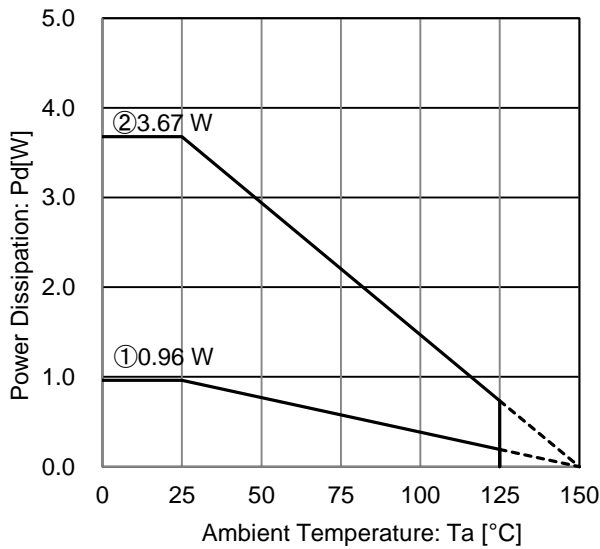
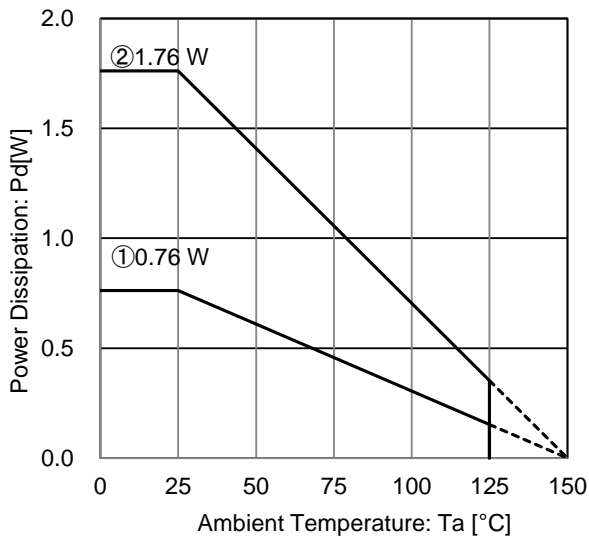

Figure 25. HTSOP-J8 Package Data
Figure 27. SOT223-4(F) Package Data
Refer to the heat mitigation characteristics illustrated in Figure 25 to Figure 27 when using the IC in an environment of $T_a \geq 25^\circ\text{C}$. The characteristics of the IC are greatly influenced by the operating temperature, and it is necessary to operate under the maximum junction temperature T_{jmax} .
At $T_a = 125^\circ\text{C}$ with Figure 25 ② condition, the calculation shows that ca 71.5mA of output current is possible at 10.2V potential difference across input and output.
At $T_a = 125^\circ\text{C}$ with Figure 25 ② condition, the calculation shows that ca 85.8mA of output current is possible at 8.5V potential difference across input and output.
At $T_a=125^\circ\text{C}$ with Figure 27 ② condition, the calculation shows that ca 34.3mA of output current is possible at 10.2V potential difference across input and output.
At $T_a=125^\circ\text{C}$ with Figure 27 ② condition, the calculation shows that ca 41.1mA of output current is possible at 8.5V potential difference across input and output.